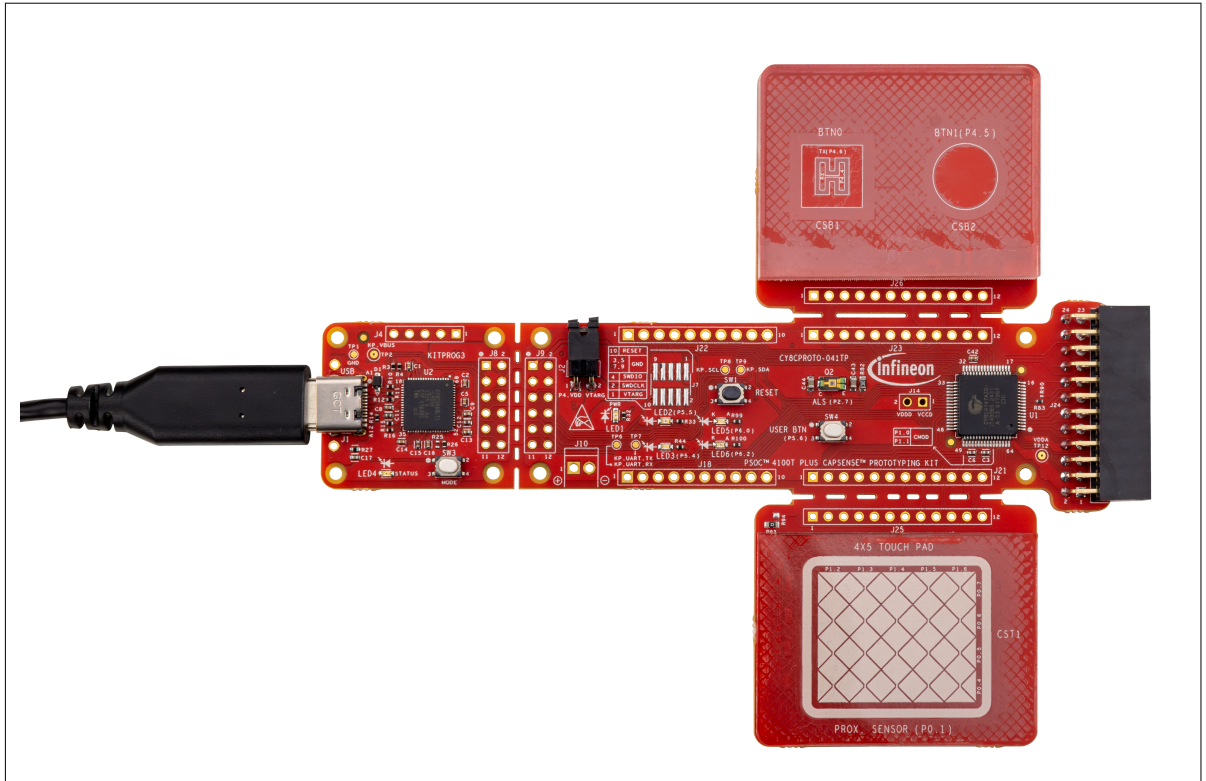

Figure 6 Connect the USB cable to the USB connector on the board
1. Connect the board to the PC using a USB cable through the KitProg3 USB connector, as shown in Figure 6